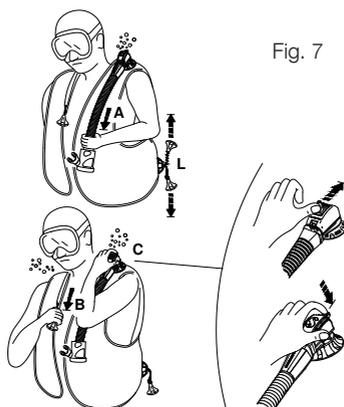

Fig. 7
- a. pulling gently on the hose assembly (fig. 7 - A).
- b. pushing on the button that protrudes out of the valve casing (fig. 7 - C) (Patented): this system could be useful also to purge air of another diver having problems (panic, beginner diver, unconsciousness, etc.).
- The SCUBAPRO® Dual Manual Dump Valve (Patent) has a safety hand button that releases air when pushed (fig 7-C), in case of failure of the Manual Dump System (broken cable, pin, etc.).
***Lower Dump Valve (fig. 7 - L)***
The deflation devices with the maximum outflow of gas are the shoulder valve fig. (7-B) and the lower valve (fig 7-L).